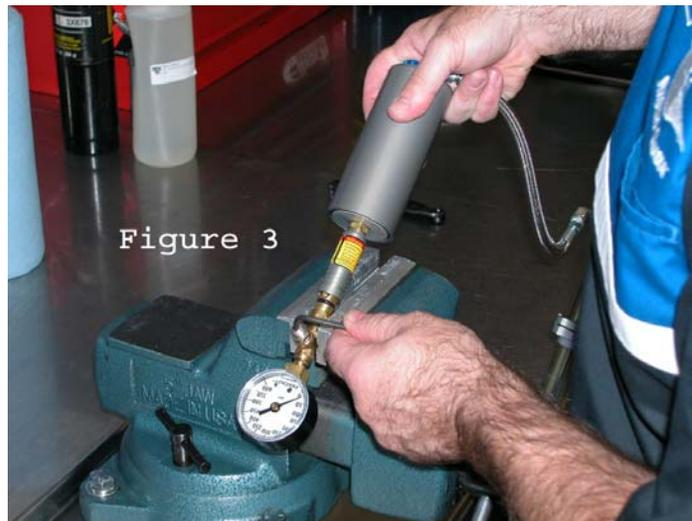

Figure 3
12. Insert the Fox Safety Needle squarely into center of gas valve. **(Fig. 3)**
13. Using a blunt object, depress the air valve core to release pressure. **(Fig. 3)**